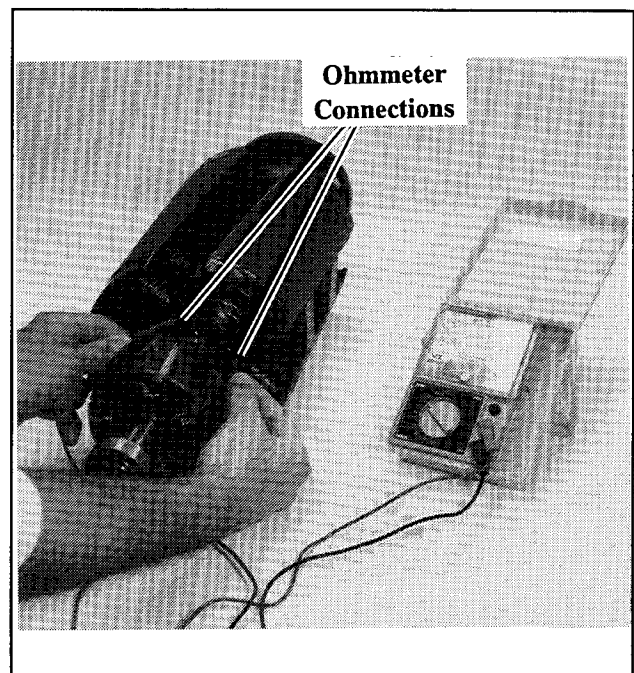

Figure 8-19. Ohmmeter Connections on Main Field
2. Check main field resistance by connecting an ohmmeter across main field F+ and F- leads. See Figure 8-19. The resistance reading for a cold main field should be 2.5-4.5 ohms (approximately). A low reading indicates an internal short and a high reading indicates an open winding. Repair or replace main field if ohmmeter readings indicate main field is defective. If the resistance test proves inconclusive, perform a megohmmeter test on the main field as described in the next step.